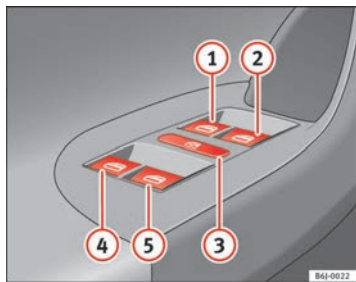

Fig. 47 Detail of the driver door: controls for the front and rear windows
Buttons ⇒ page 82, fig. 47 ①, ②, ④ and ⑤ have two positions for opening windows and two for closing them. This makes it easier to open and close windows to the desired position.